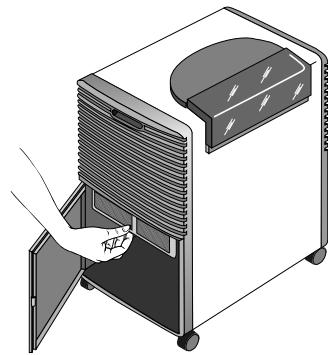

Fig. 4
- In order to remove the air filter, open the canister panel, remove the canister and extract the filter by pulling it downwards (fig. 4).